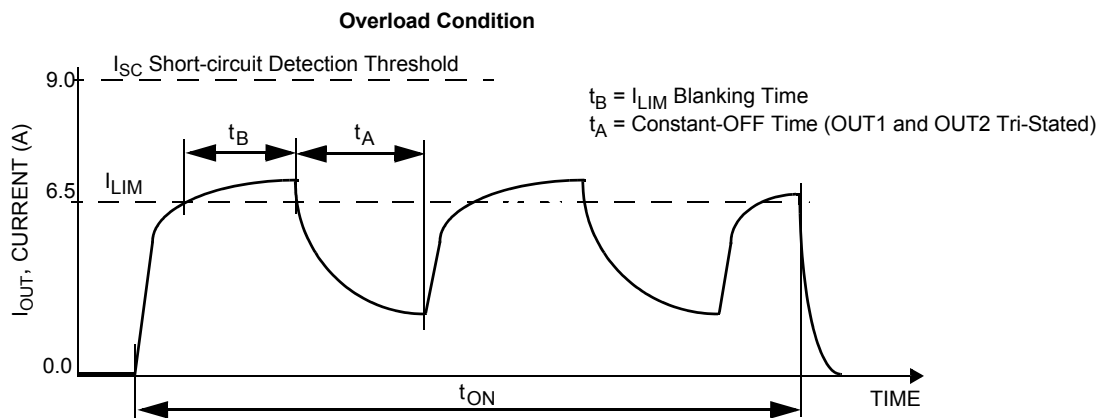
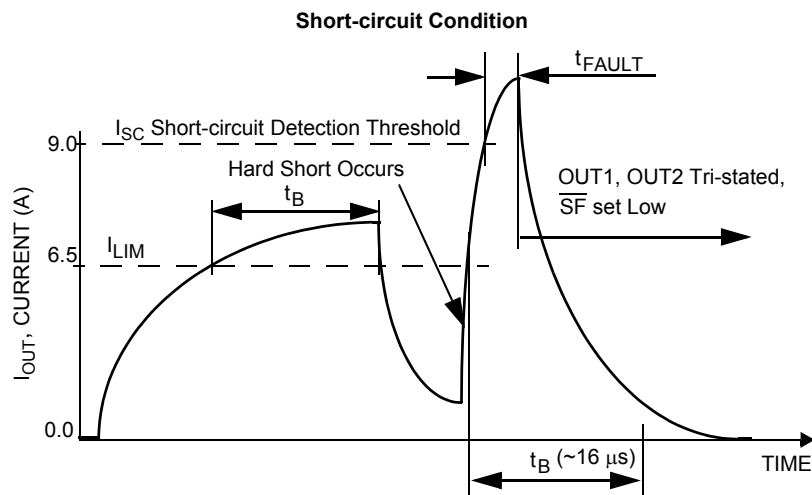
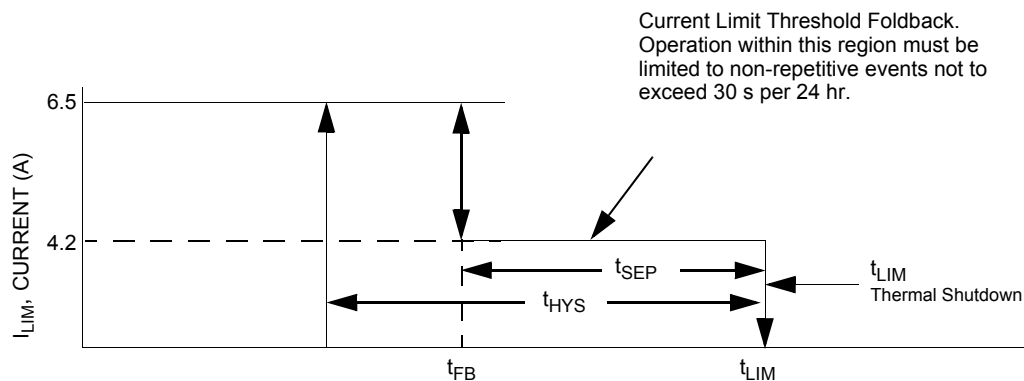

Figure 7. Current Limit Blanking Time and Constant-OFF Time
Figure 8. Short-circuit Detection Turn-OFF Time  $t_{FAULT}$
Figure 9. Output Current Limiting Foldback Region
| Output Current Regulation Threshold$T_J < T_{\text{FB}}$$T_J \geq T_{\text{FB}}$ (Foldback Region - see Figure 9 and Figure 11) (13)                                                                                                             | $I_{\text{LIM}}$                     | 5.2–    | 6.54.2    | 8.0–        | A                |
28. Load currents ramping up to the current regulation threshold become limited at the  $I_{\text{LIM}}$  value (see Figure 7). The short-circuit currents possess a  $di/dt$  that ramps up to the  $I_{\text{SCH}}$  or  $I_{\text{SCL}}$  threshold during the  $I_{\text{LIM}}$  blanking time, registering as a short-circuit event detection and causing the shutdown circuitry to force the output into an immediate tri-state latch-OFF (see Figure 8). Operation in Current Limit mode may cause junction temperatures to rise. Junction temperatures above  $\sim 160^{\circ}\text{C}$  will cause the output current limit threshold to "fold back", or decrease, until  $\sim 175^{\circ}\text{C}$  is reached, after which the  $T_{\text{LIM}}$  thermal latch-OFF will occur. Permissible operation within this fold back region is limited to non-repetitive transient events of duration not to exceed 30 seconds (see Figure 9).